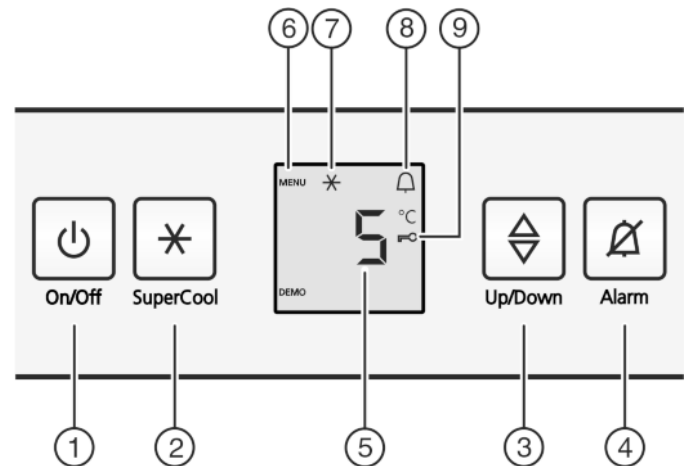

Fig. 2
- ▶ Press the On/Off button Fig. 2 (1).
- ▶ Press the SuperCool button Fig. 2 (2) for about 5 seconds.
- ▷ The Menu symbol is shown on the display, Fig. 2 (6).
- ▶ Confirm briefly with the SuperCool button *Fig. 2 (2)*.
- ▷ The child lock symbol, *Fig. 2 (9)*, lights up on the display.
- ▶ Briefly press the On/Off button *Fig. 2 (1)*.
- ▶ Press alarm button *Fig. 2 (4)*.
- ▶ Call up temperature function: press the setting button *Fig. 2 (3)*.
- ▶ Change the temperature in 1 °C steps: Press the setting button *Fig. 2 (3)* until the required temperature is indicated in the temperature display.
- ▶ Briefly press SuperCool button *Fig. 2 (2)*.
- ▷ The SuperCool symbol *Fig. 2 (7)* lights up in the display.
- ▷ The SuperCool symbol *Fig. 2 (7)* goes out in the display.